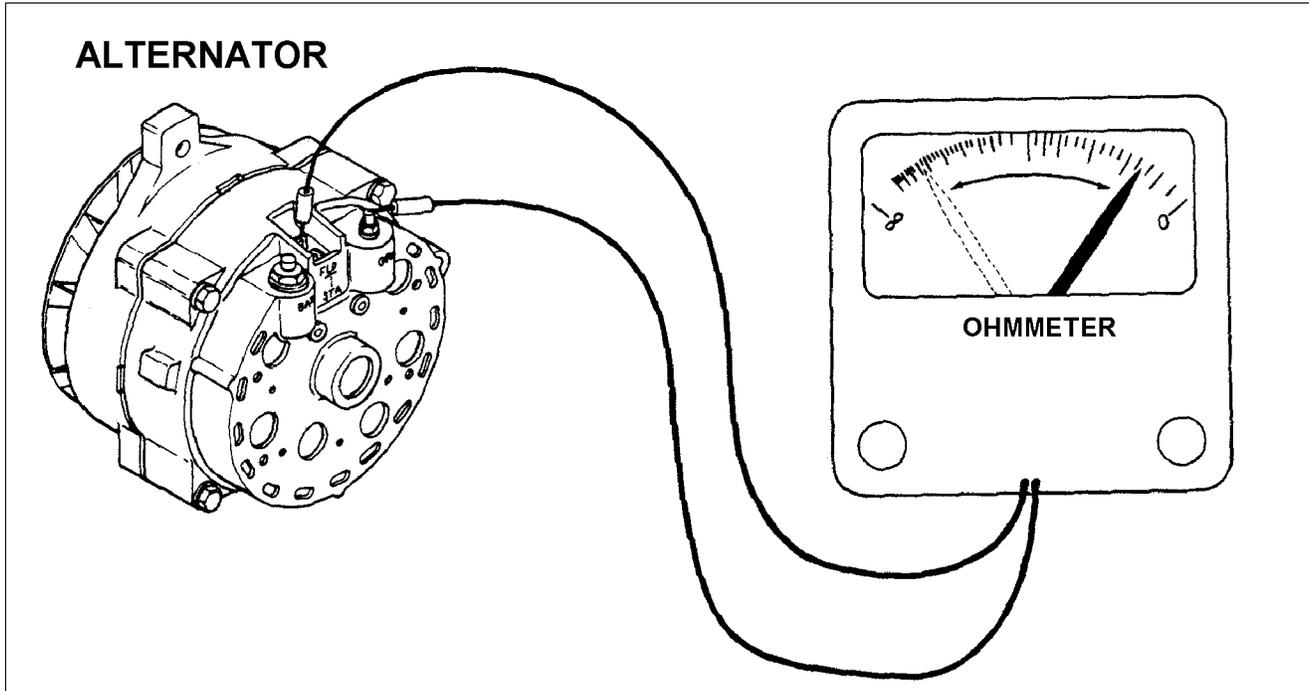

Figure 24-8. Field Circuit Open or Ground Test
- c. Field Circuit Open or Ground Test (Refer to Figure 24-8)
- (1) Set ohmmeter selector switch to resistance scale one and zero meter.
- (2) Connect one lead to the FLD terminal and the other lead to the GRD terminal.
- (3) Spin alternator pulley and note ohmmeter reading. Meter should read between 4 and 200 ohms and fluctuate while rotor is turning.
- (4) A reading lower than four ohms indicates:
- (5) A reading higher than 200 ohms indicates: